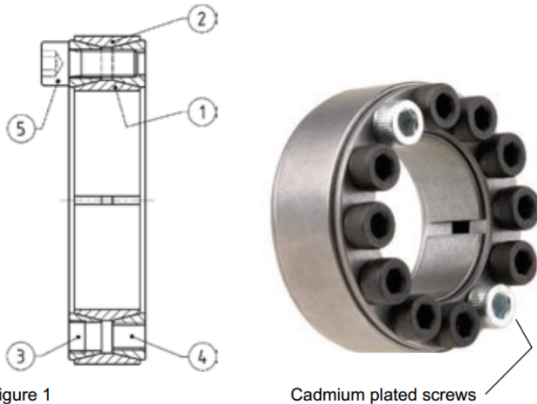

Figure 1
Carefully remove the top and sides of the crate covering the machine so as not to damage painted surfaces, electrical or hydraulic components. Inspect the machine for visible damage. If damage is noted, follow receiving procedure. Remove the (4) lag screws connecting the machine base to the pallet. Remove machine from pallet by lifting 7.62 cm (3") diameter drum holder shaft. Attach a strap to an overhead crane and raise slowly, as the machine will tend to tilt (see figure 1).
(Refer to Figure 1)